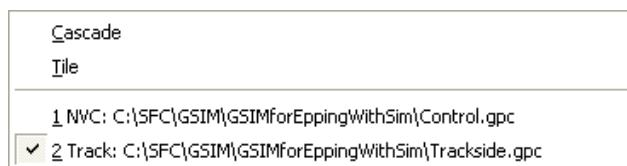

Figure 3.9 Window menu
- a list of open windows. Selecting a window from the list will activate that window and move it to the front so it can be viewed. The Window menu is shown in figure 3.9.